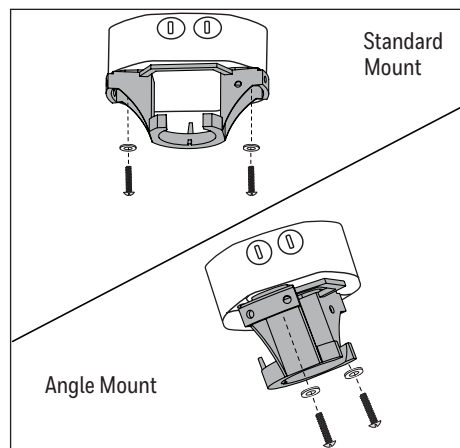

Figure 2.2
2. Install the mounting bracket to the outlet box (not included) using the screws and washers provided with the outlet box (Figure 2.2).